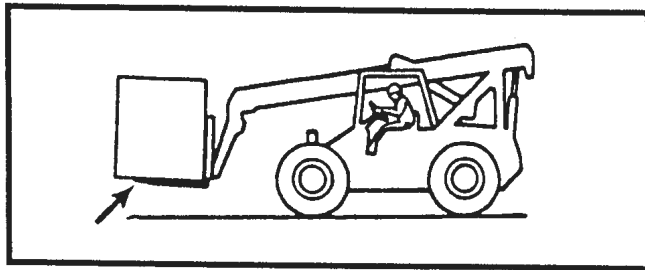
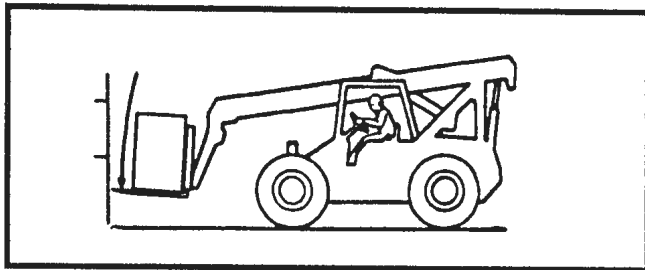

Figure 5-11. Ensure that at least two-thirds (2/3) of the load is supported by the forks.
Figure 5-12. Be careful of forks beyond load.
2. Move forward slowly until the forks are in position under the load. When lifting a load, the forks must support at least two-thirds (2/3) of the length of the load. Refer to Figure 5-11. Make sure that the load is centered between the forks, and that the forks are centered on the carriage. The center of gravity must be as close to the load backrest and the center of the carriage as possible. Make sure that the forks do not extend past the load so that loads or equipment that are behind the load being lifted are not damaged. Refer to Figure 5-12.